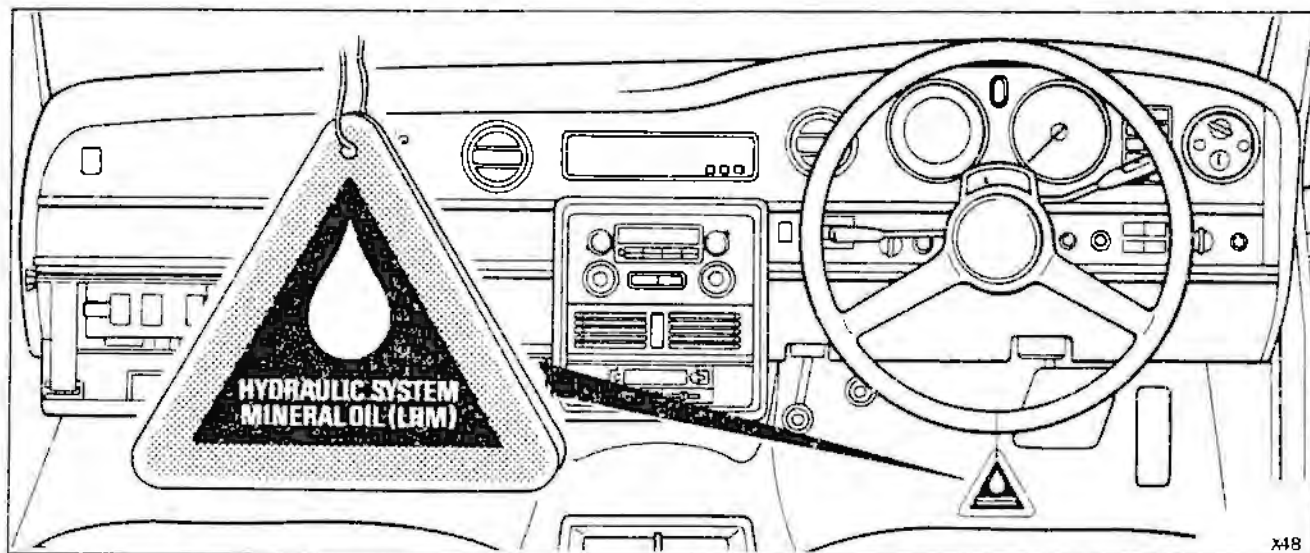

Fig. 3
2. The triangular label, found in the glove box on later cars, advises on the correct use of Hydraulic System Mineral Oil and warns against the use of Brake Fluids or 'Universal' fluids. This label should be attached to the rim of the steering wheel (see fig. 3) prior to delivery and pointed out to the customer at the time of delivery.